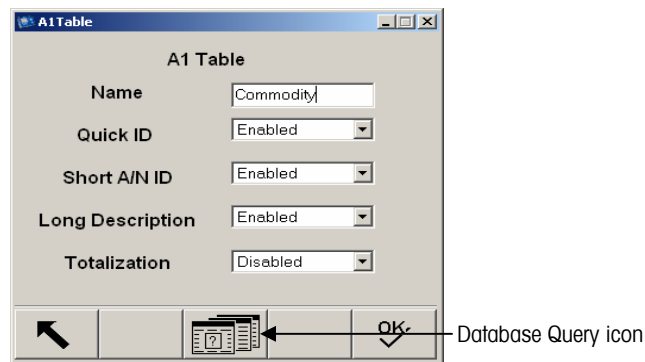

Figure B-14: A1 Table Information
- Double click on the selection to view the table information (Figure B-14).